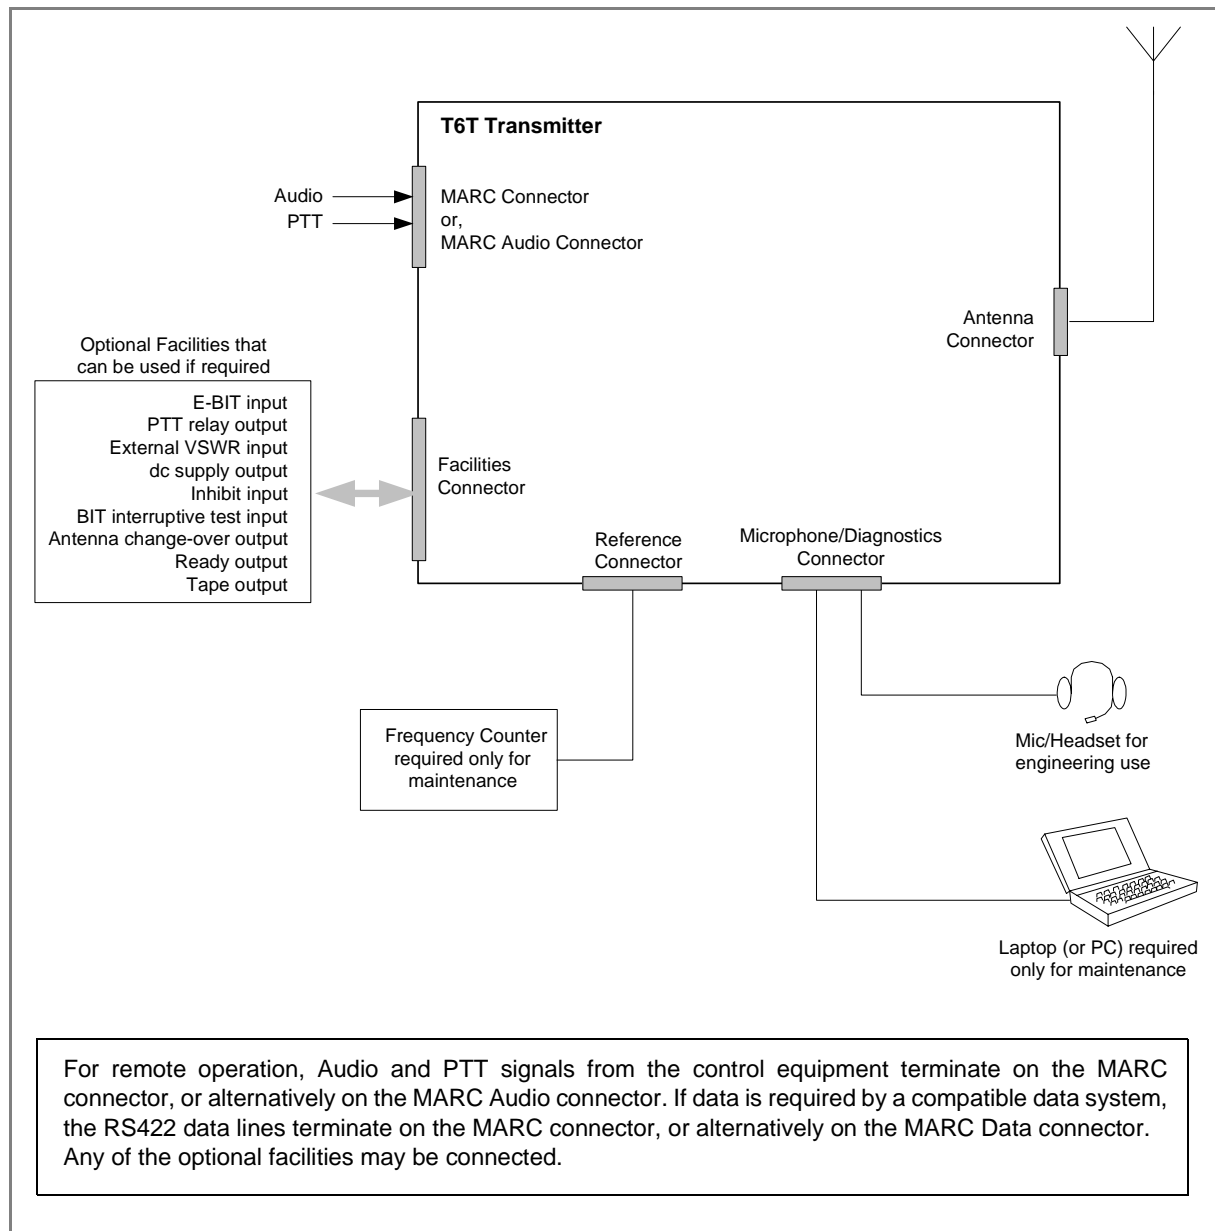

Fig 2 T6T Transmitter Configured for Remote Operation
- ❑ T6T transmitter configured for remote operation (see Fig 2).